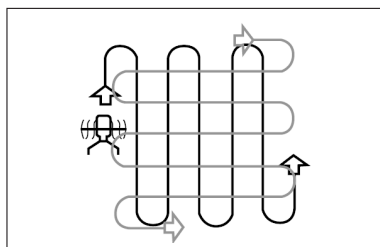

Fig. 12
6. Till in slight overlapping rows. The most effective pattern for tilling soils is moving the product up and down in verticals lines, then move the product in horizontal lines from left to right (Fig. 12). This will keep the rows even and ensures that all the ground is tilled without missing any spots.